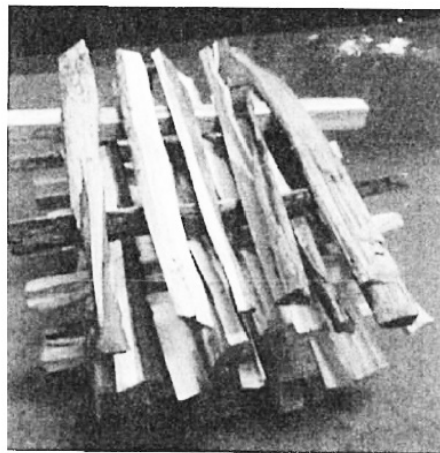

Figure 27. Criss-Cross Pattern
1. Cut and split kindling pieces approximately 16” long. The recommended piece size is 1/2 ” - 3/4” in cross section. The kindling should be very dry and the total weight would be about 4-1/2 lbs. if hardwood. A recommended stacking arrangement of the fuel pieces is shown in Figure 27.